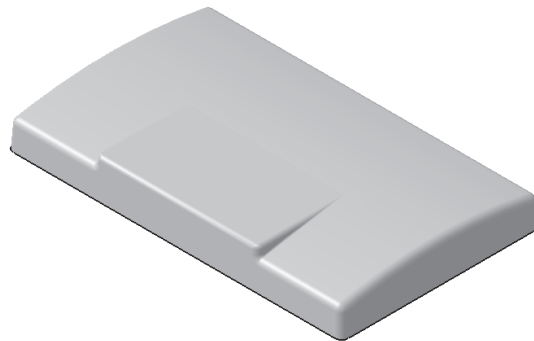

Figure 6-99 Resulting filleted model
9. Choose the **OK** button from the **Edge Fillet Definition** dialog box. The resulting filleted model is shown in Figure 6-99.